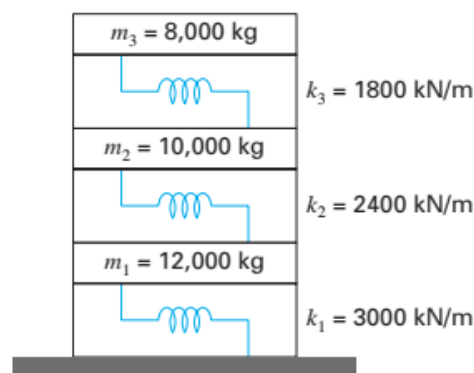

FIGURE P22.22
22.22 Engineers and scientists use mass-spring models to gain insight into the dynamics of structures under the influence of disturbances such as earthquakes. Figure P22.22 shows such a representation for a three-story building. For this case, the analysis is limited to horizontal motion of the structure. Using Newton's second law, force balances can be developed for this system as